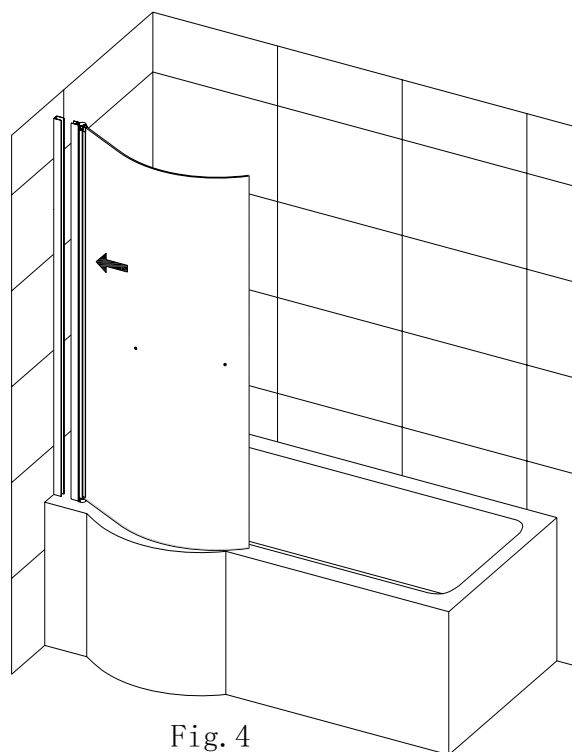

Fig. 4
- 4) Connect the pivot doors with the wall profiles .As Fig.4